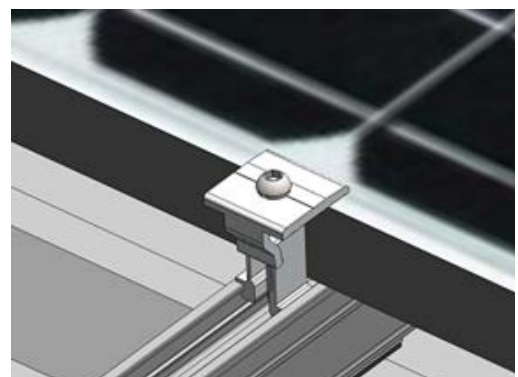
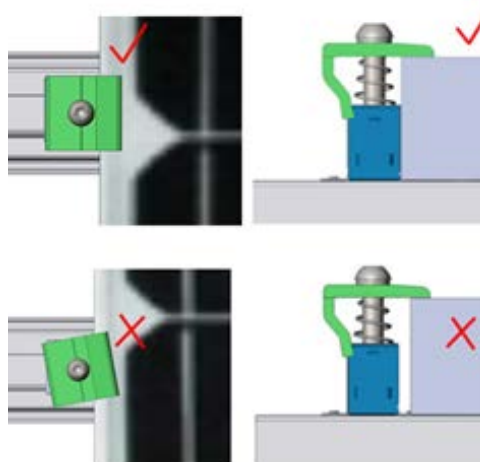

Figure 31
Figure 32
Step 3 Place the first PV Module on the Rails and apply the Universal Clamp in the End Clamp position and fasten slightly with the Allen Key. Make sure the frame of the PV Module is fully in contact with the Universal Clamp as shown in Figure 31. Visually check the Universal Clamp and PV module are properly installed as shown in Figure 32.